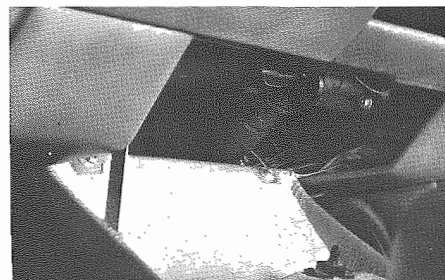
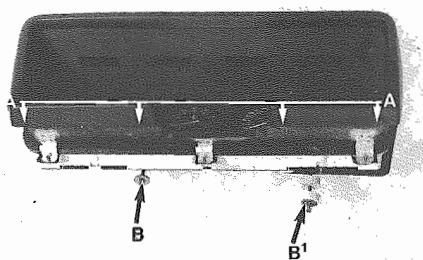

Fig. 3 - Sportello
Fig. 2 - A - Viti fissaggio posteriore
AVVERTENZA - Sul prigioniero destro sono inserite due rondelle in gommaspugna (**Fig. 2**), che chiudono i fori di passaggio del prigioniero praticati sulla canalizzazione aria al parabrezza.
- The instrument panel is fixed on the back with 4 screws (**Figs. 1-2**) and in the front with two studs (**Fig. 2**). To gain access to the L/H stud it is necessary to open the lid located under the column (**Fig. 3**) for the R/H one the access is possible through the valance panel of the left tunnel (**Fig. 4**).
NOTE - On the R/H stud are inserted two sponge rubber washers (**Fig. 2**) that close the studs holes made on the air duct to the windshield.